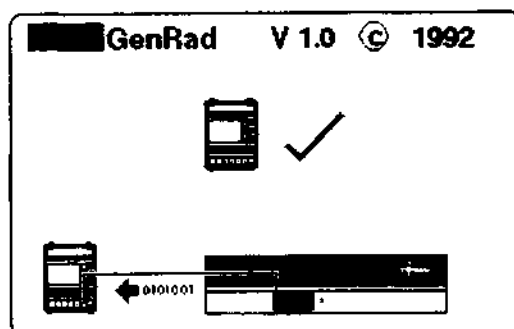
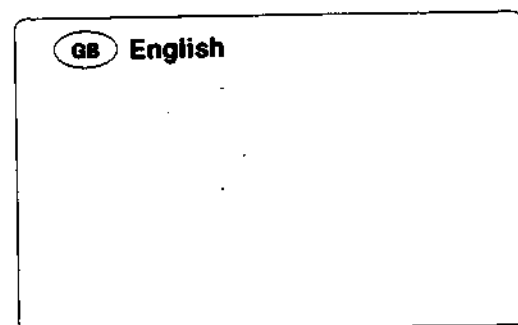

Figure 10. Self-check completed screen
Figure 11. Language selection screen
4. When the PDU is switched on, it will perform an automatic self-check to test the internal components. On successful completion of the self-check, a PDU symbol will appear with a 'tick' next to it (Fig 10). The PDU will then display the language selection screen (Fig 11).
5. Select the required language and confirm the selection (Fig 11).